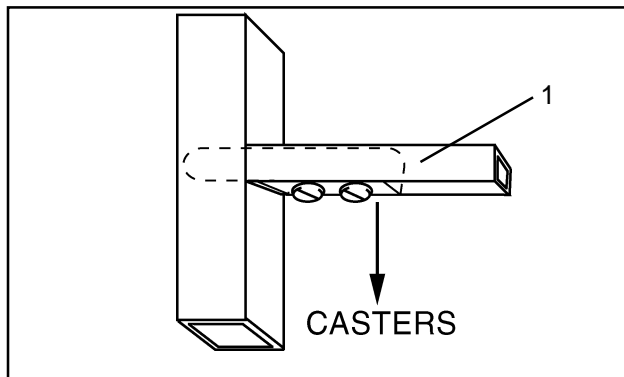

Figure 23
**Note:** The screws securing the wear strips must face towards the casters (Figure 23).